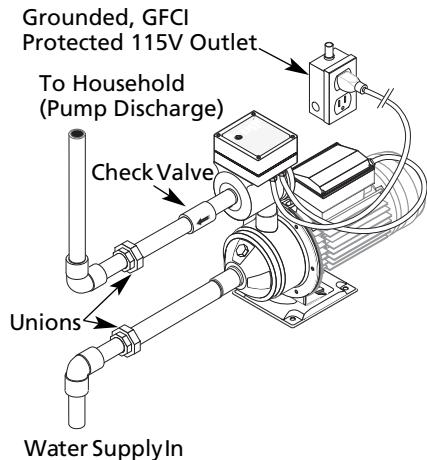

Figure 2 – Typical household booster installation. Purchase plumbing fittings separately. Consult code for relief valve/pressure regulator requirements
If not already in the plumbing system, install a pressure relief valve in the pump discharge line capable of passing the full pump flow at 100 psi (689 kPa) (See Figure 2, page 5). If local code requires installation of a pressure relief valve capable of handling the full pump
9. Install piping from elbows to pump including a union in each line and a check valve in the pump discharge line. The arrow on the check valve must point away from the pump discharge (see Figure 2). If not already in the plumbing system, install a pressure relief valve in the pump discharge line capable of passing the full pump flow at 100 psi (689 kPa). If local code requires installation of a pressure relief valve capable of handling the full pump flow at a pressure less than 100 psi
WARNING *Hazardous voltage. Risk of dangerous or fatal electric shock. Plug the pump into a 115 Volt, 60 Cycle, Ground Fault Circuit Interrupter (GFCI) protected grounded outlet only. The pump is equipped with a 3-wire grounded cord and plug. Do not modify or remove the plug. Make sure the outlet meets the National Electric Code or the Canadian Electrical Code, as applicable. To avoid dangerous electrical shock hazard, keep the cord dry at all times. See Figure 2, page 5.*